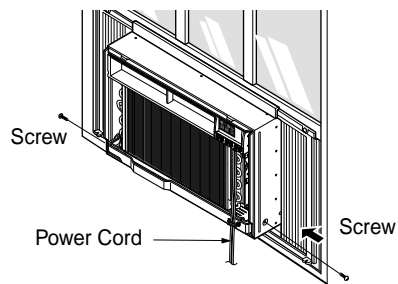

Fig. 18
- 7 Slide the unit into the cabinet. (See Fig. 18)